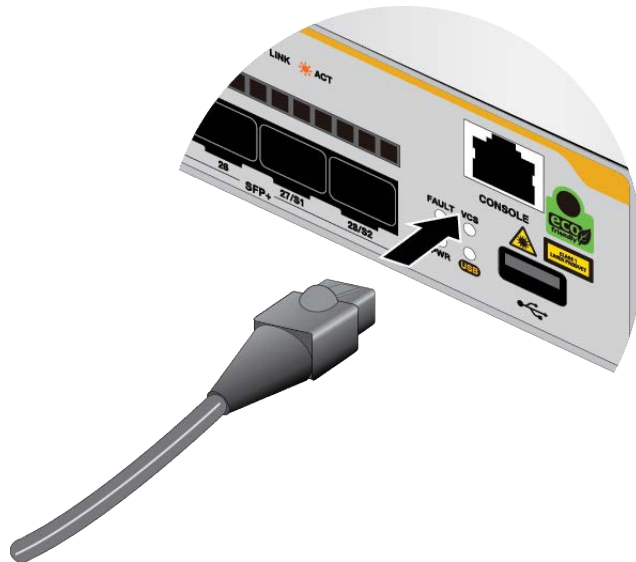

Figure 63. Connecting the Management Cable to the Console RS-232 Port
1. Connect the RJ-45 end of the management cable to the Console RS-232 port on the management panel. Refer to Figure 63.